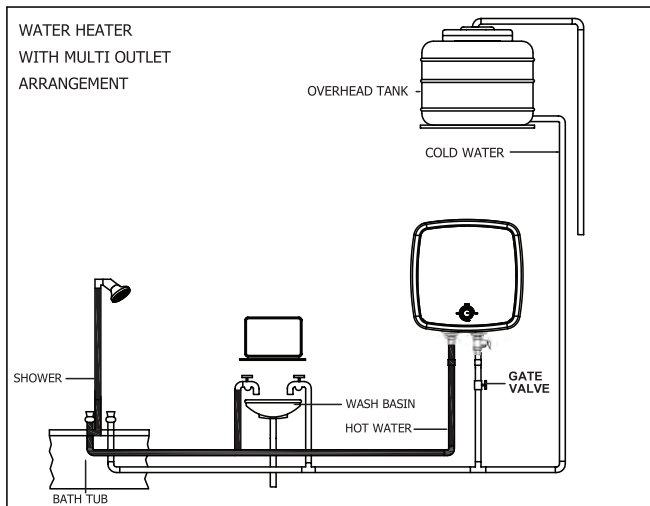

Fig : 5
6. The heater can be connected to multiple outlets-shower, wash basin, bath tub etc., Fig:5 shows the schematic layout of multiple outlet connections.
10. The heater can be connected to multiple outlets- shower, wash basin, bath tub etc., Fig.5 shows the schematic layout of multiple outlet connections.